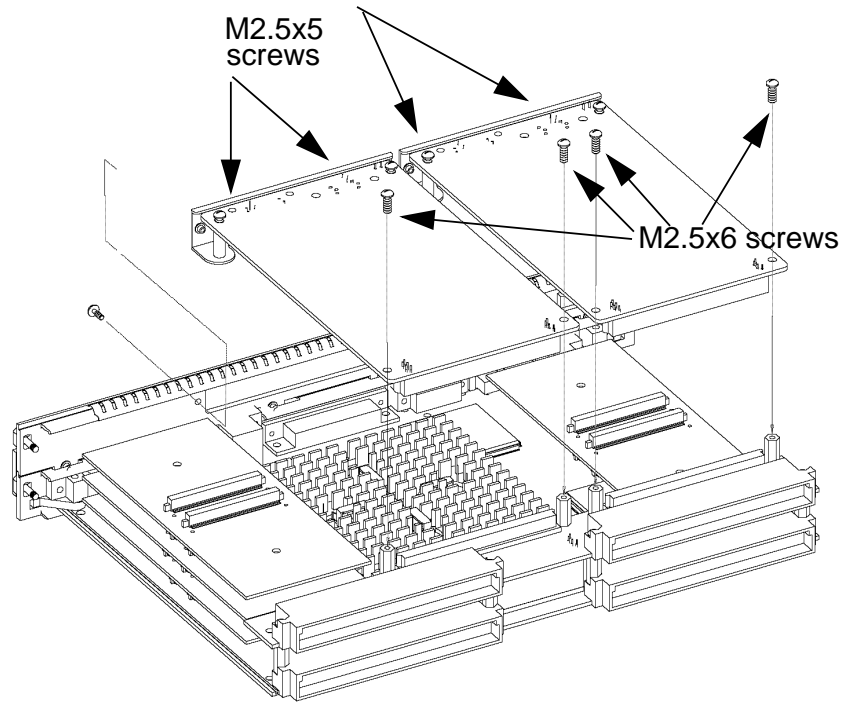

Figure 2-4
- 1 Working from the back of the Model 743 Board Computer, you can install GSC graphics cards into either the right-hand or center position shown in Figure 2-4.
- 2 Using Figure 2-4 as a guide, position a card and line up its connector over the GSC connector on the board computer.